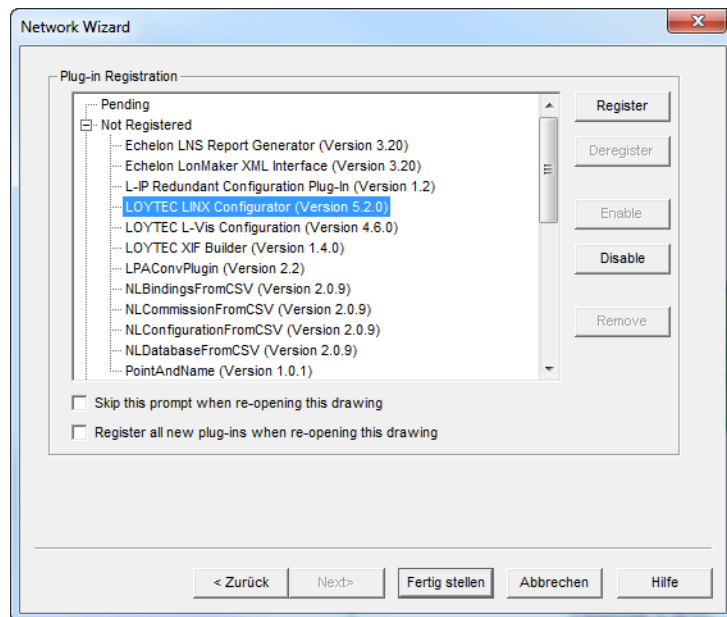

Figure 14: Select the Plug-in to be registered.
2. Click **Next** until the plug-in registration tab appears in the Network Wizard. Select the **LOYTEC LINX Configurator (Version X.Y)** from the list of **Not Registered** (see Figure 14).